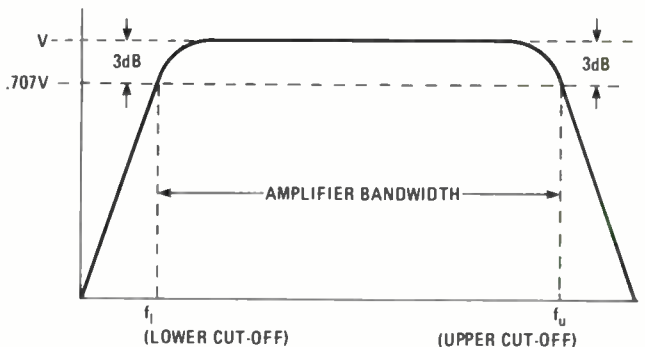

Fig. 15—The 3-dB points (called "3-dB down") determine an amplifier's bandwidth and frequency response.
37. (high) The overall range over which an amplifier will provide a constant gain is called the *frequency response*. The frequency response is defined by upper and lower cut-off frequencies, as shown in Fig. 15. The cut-off frequencies are those